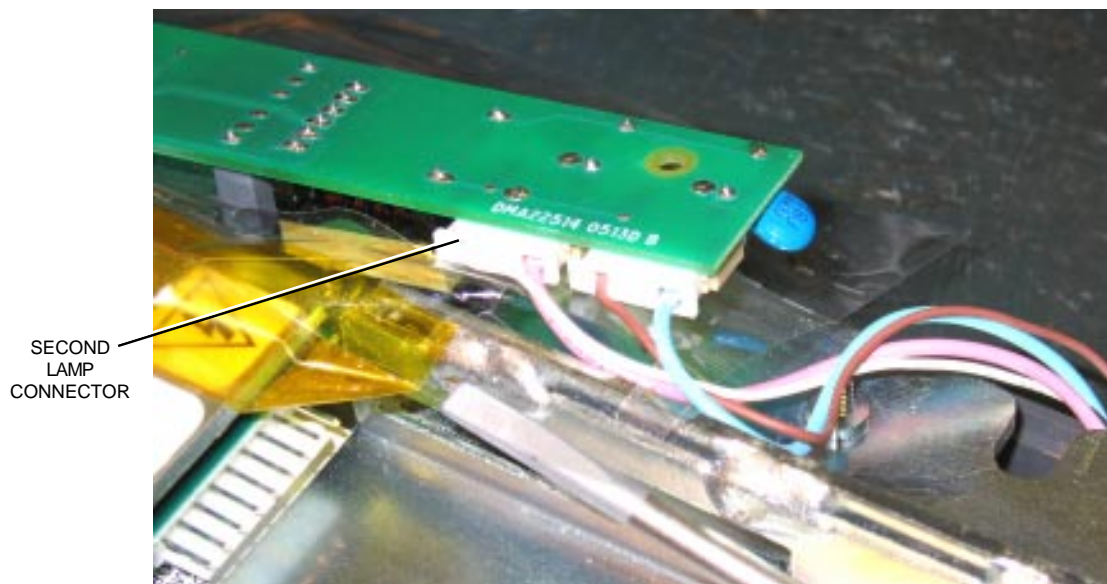

Figure 10
6. Connect the second lamp connector to the Inverter PCB. The lamp connector must go through the metal slot and plug into the inverter PCB. Refer to Figure 10.